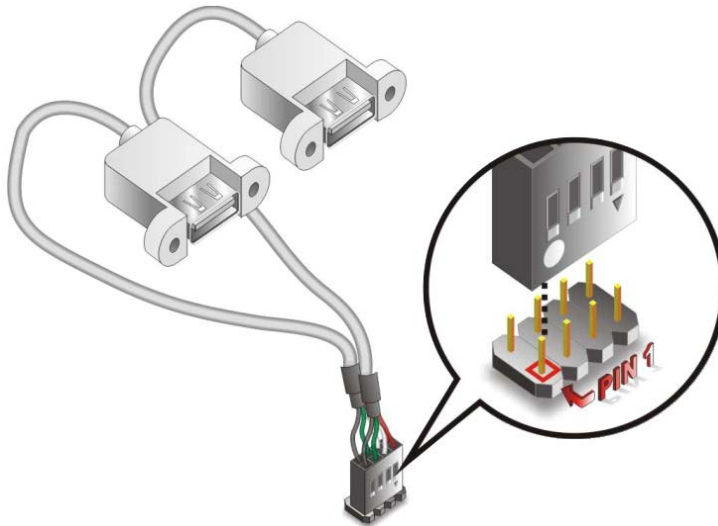

Figure 5-15: Dual USB Cable Connection
Step 3: Insert the cable connectors. Once the cable connectors are properly aligned with the USB connectors on the EX-9945GSE 5.25-A, connect the cable connectors to the on-board connectors. See **Figure 5-15**.